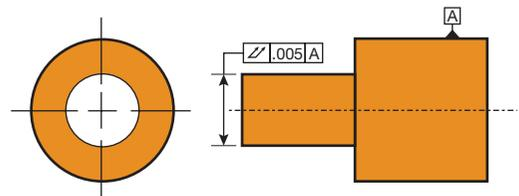
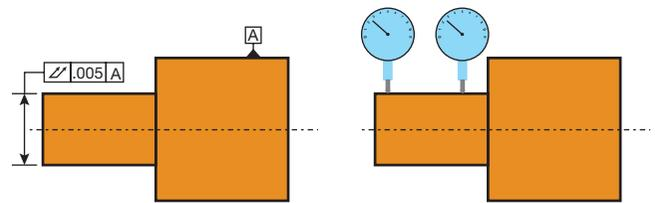

Figure A-110 Total runout specification.
Figure A-111 Inspecting total runout.
**Total Runout** Total runout is very similar to circular runout except that total runout applies to the whole controlled feature, not just one circle. See Figure A-110. The GD&T symbol for total runout is used. This means that the whole length of the small diameter would need to be within .005 when checked. To inspect this part the operator would need to check several circles along the whole length of the small diameter (see Figure A-111). All points of the checks would need to have .005 or less runout.
Runout and total runout can also be on a surface of a cylindrical part. In the example shown in Figure A-111 the surface must have runout of less than .005 in relation to Datum A.